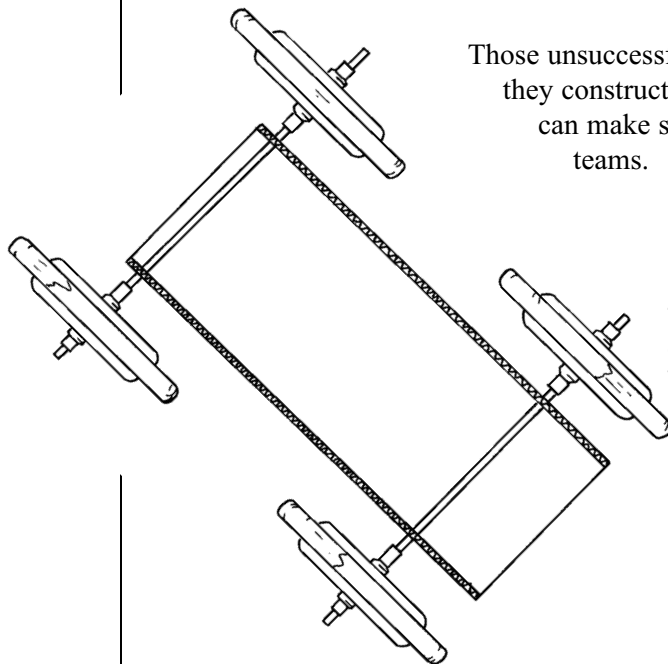

Figure 1.9
3. **Car does not travel straight.** Ask those teams whose cars do not travel in a straight line to show them to the whole group. Have them discuss what might be changed to correct this problem. One problem, as discussed above, is that the car is wobbling, causing it to roll to the side. Other possibilities include that the axles are not lined up parallel to each other (as they are in Figure 1.9) or that the plates on one or both axles are not centered properly and the wheels are rotating in an uneven manner.